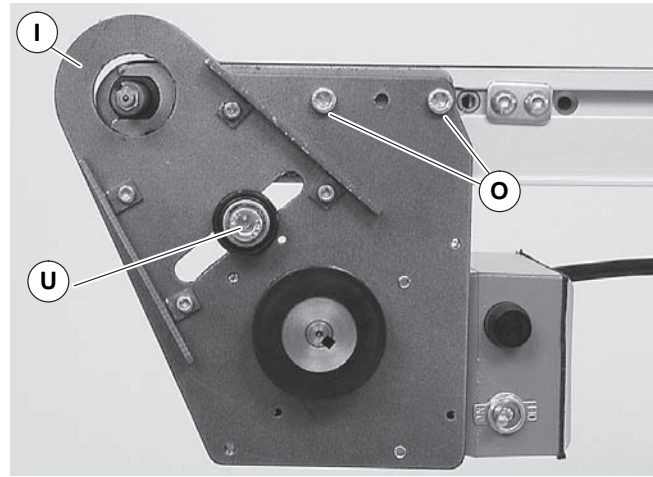
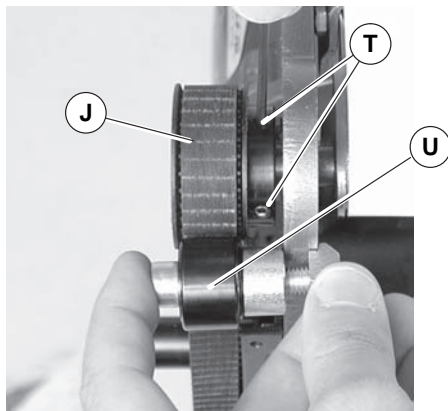

Figure 9
Figure 11
4. Attach mount assembly (Figure 9, item I) with screws (O). Tighten screws to 80 in-lb (9 Nm).
6. Wrap timing belt (M) around driven pulley (J) and drive pulley (R). Install driven pulley (J) onto conveyor shaft.
7. Remove cam bearing and spacer (Figure 9, item U). Place the cam bearing and spacer (Figure 11, item U) next to the driven pulley (J). Ensure the flanges of the driven pulley are aligned with the cam bearing. Tighten driven pulley set screws (T). This will allow for proper belt alignment while conveyor is in use. Replace cam bearing and spacer (U).